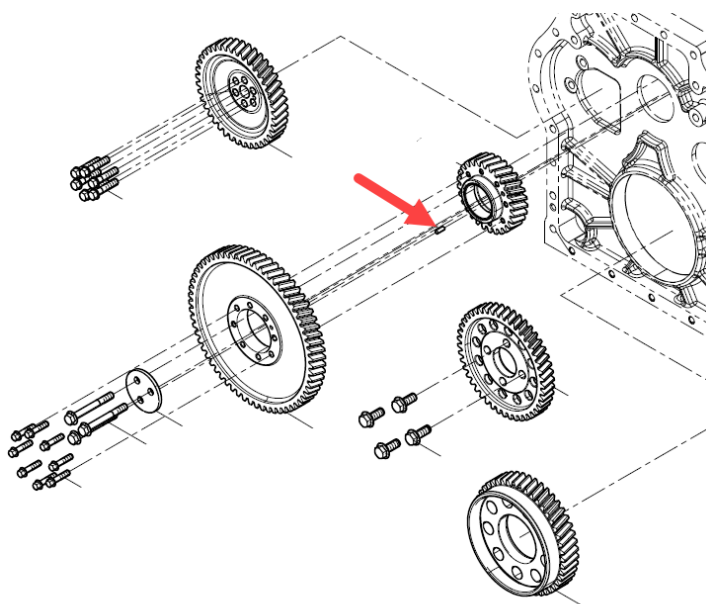

Figure 128.
12. Install the dowel pin (Figure 128) to the idler gear that was previously installed.